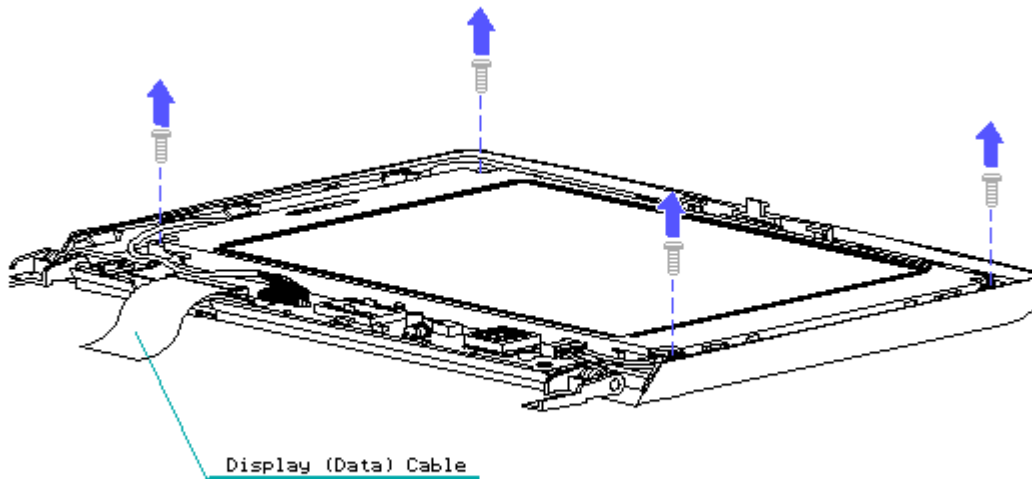

Figure 2-19. Removing the Four Screws
2. Remove the four screws that secure the LCD panel to the display enclosure (Figure 2-19).